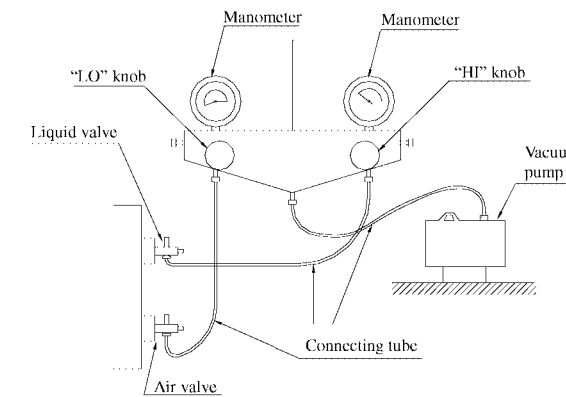

Fig.33
3. Use a vacuum pump to expel the air inside the indoor unit and the connecting pipes at the valve of the outdoor unit as shown in Fig.33.